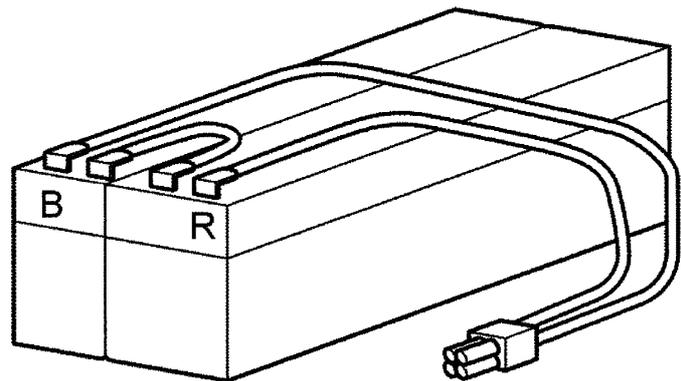

Figure 4-43 Connecting Built-in Batteries
1. Connect the two batteries in series as shown in *Figure 4-43 Connecting Built-in Batteries*. The red cord attaches to the red terminal and the black cord attaches to the black terminal.